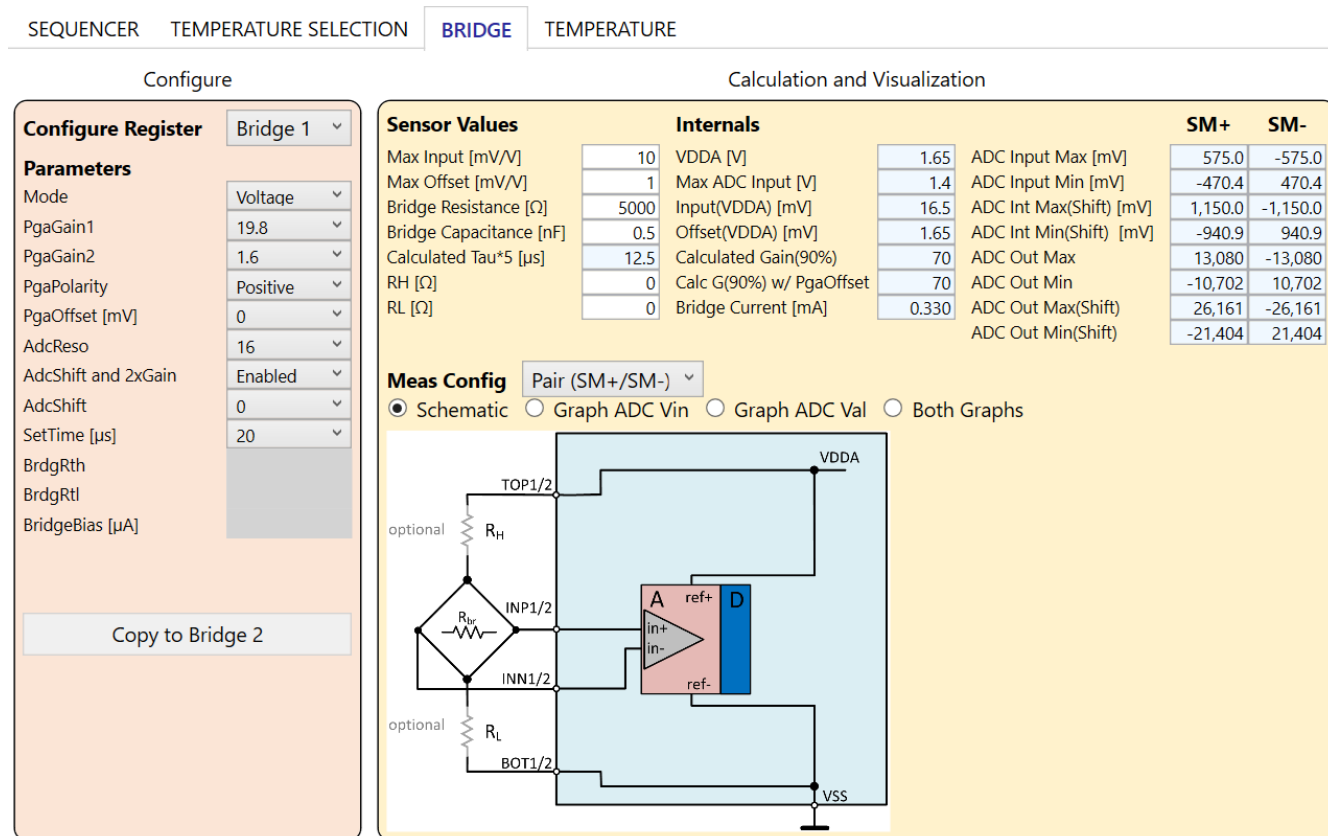

Figure 65. Voltage Mode
- Voltage: internal voltage supply (VDDA, refer to the *ZSSC3281 Datasheet* document), see Figure 65.